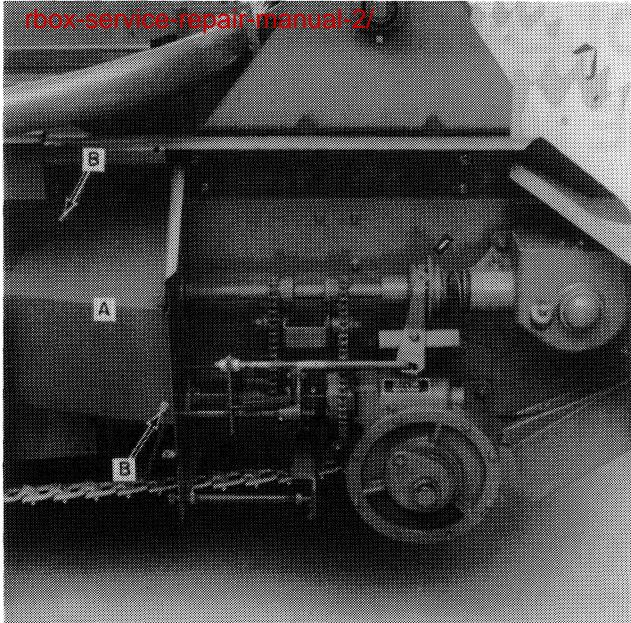

FIGURE 3
4. Remove shield, A, Figure 3, by removing the hardware at B.